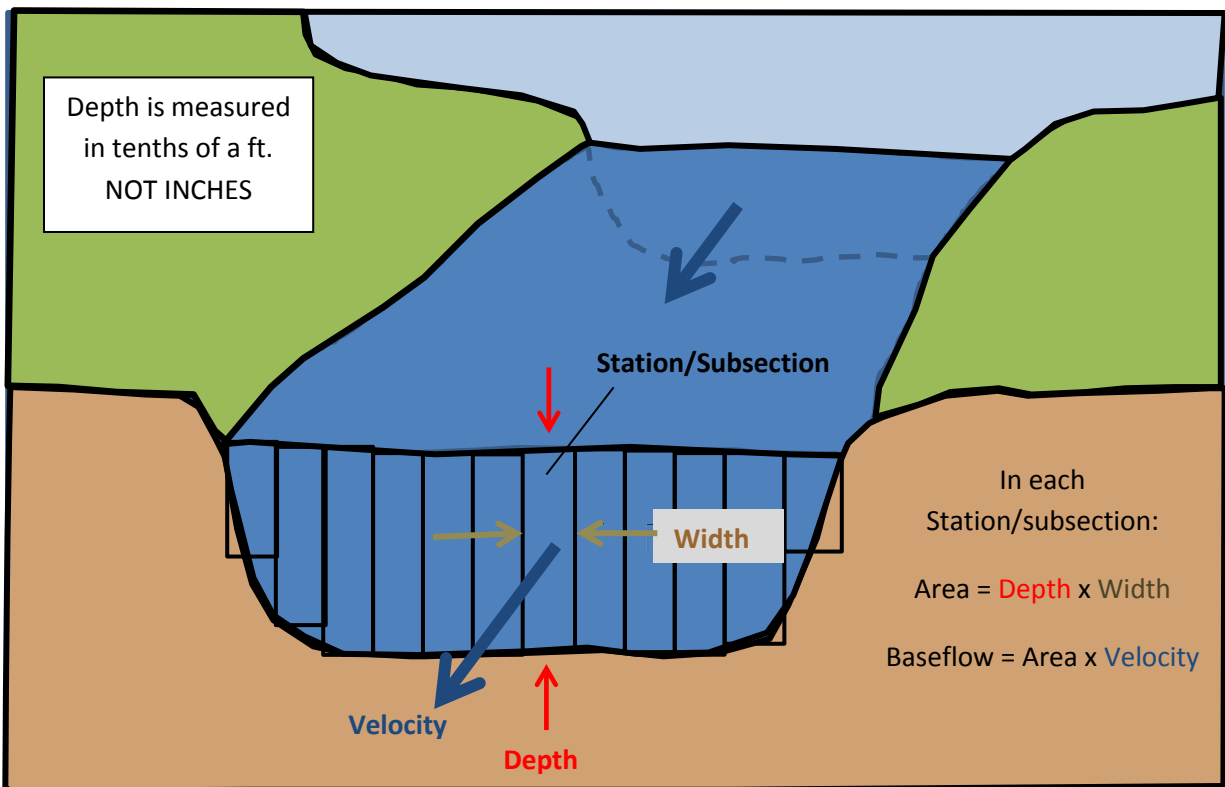

Figure 4. A typical cross section in a stream.
a. **The quality of the flow measurement is dependent on the correct selection of a cross section. Figure 4 is an example of what a typical cross section looks like. The following site characteristics are important for cross section selection.**